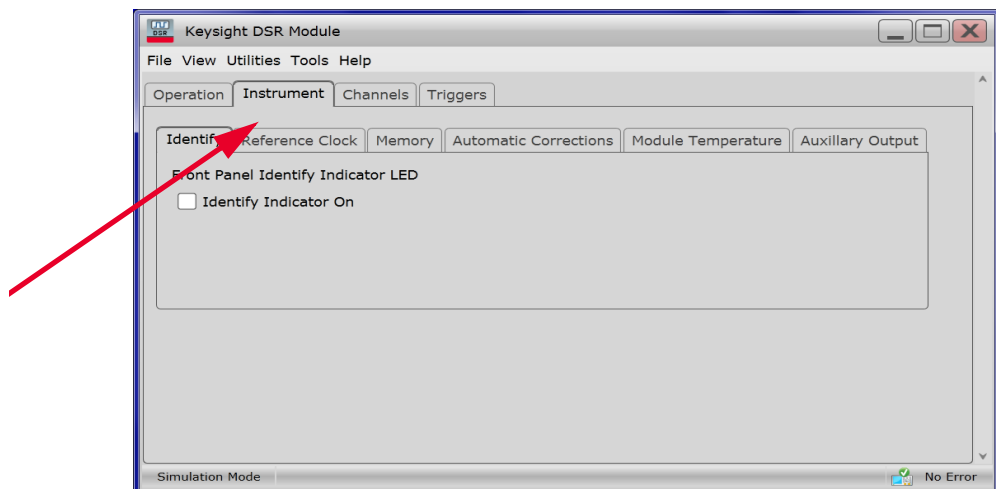

Figure 9 SFP Instrument tab
- 5 Select the **Instrument** tab in the Soft Front Panel as in Figure 9.